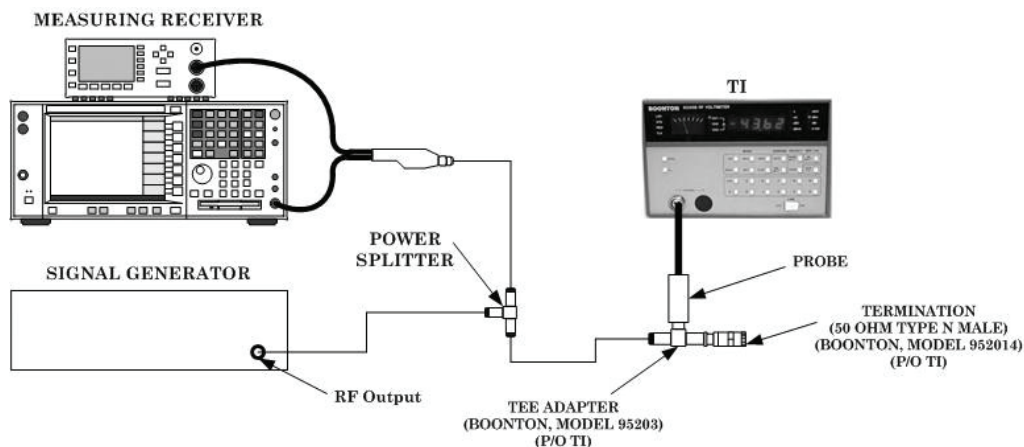

Figure 1. Frequency response - equipment setup.
(11) Set calibrator to standby.
(12) Disconnect TI probe and ac divider from calibrator.
(13) Connect TI probe to calibrator **OUTPUT V OHM A HI** and **LO** terminals.
(14) Set calibrator to operate.
(15) Adjust calibrator controls for 30 mV at 10 kHz. If TI does not indicate between 29.39 and 30.61 mV, perform **b** (25) through (32) below.
(16) Adjust calibrator controls for 100 mV at 1 MHz. If TI does not indicate between 98.9 and 101.1 mV, perform **b** (33) through (40) below.
(17) Adjust calibrator controls for 300 mV at 1 MHz. TI will indicate between 296.9 and 303.1 mV.
(18) Adjust calibrator controls for 1000 mV at 1 MHz. If TI does not indicate between 989 and 1011 mV, perform **b** (41) through (48) below.
(19) Adjust calibrator controls for 3000 mV at 1 MHz. If TI does not indicate between 2969 and 3031 mV, perform **b** (49) through (56) below.
(20) Set calibrator to standby.
(21) Connect equipment as shown in figure 1.